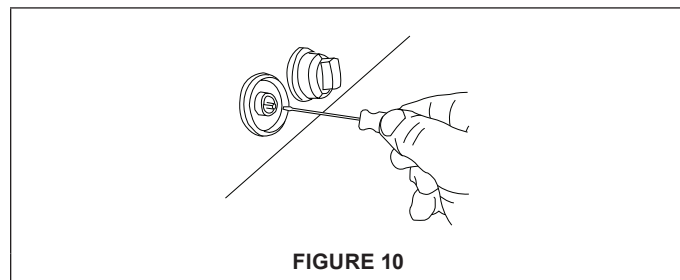

FIGURE 10
- 3 Insert a small, flat-blade screwdriver into the valve shaft. Fit tip of screwdriver into small screw head at base of valve shaft. See Figure 10.